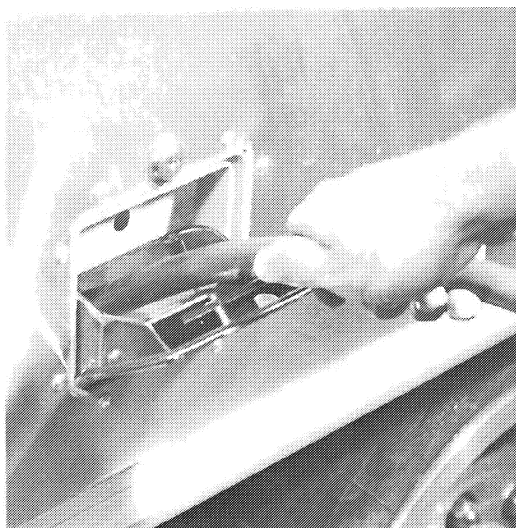

Fig. 3—Water Tank Fill Spout
**The water tank** is located under the floor between the axles. To fill the water storage tank, open the filler spout (see Fig. 3, page 74) on the exterior wall above the center of the roadside wheel well, and fill with a hose or a bucket. Close and lock the spout and the water system is ready to use.